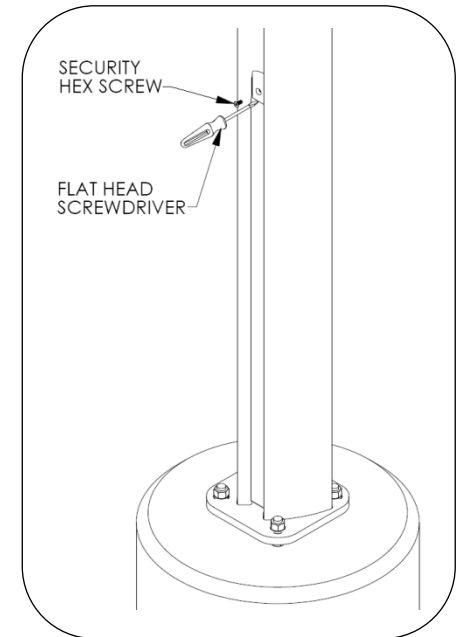

Fig.8– Remove access panel
1. Remove security screw as shown in Fig. 8. Security hex key is included.